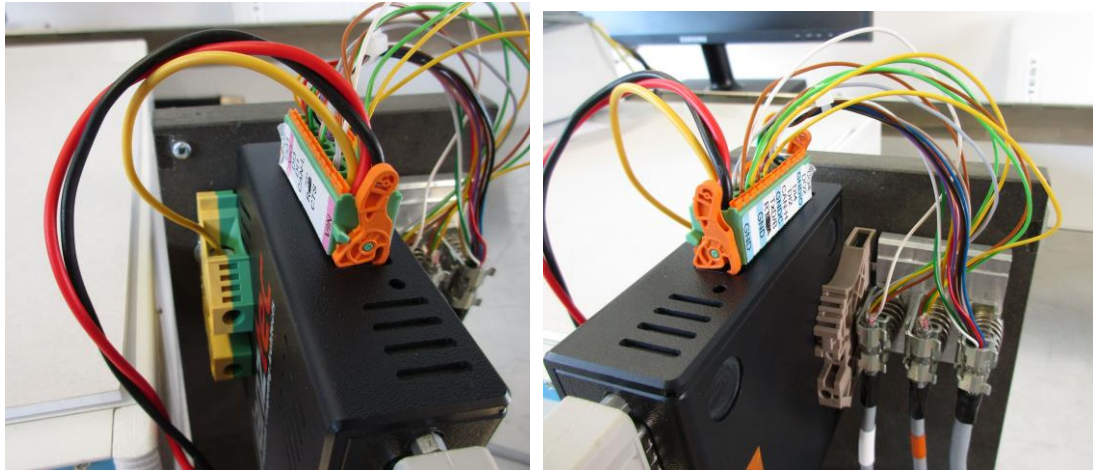

figure 10: EMC Shielding
In figure 10 we show the EMC shield (PE) connection that we utilized during EMC compatibility tests to pass industrial level immunity.